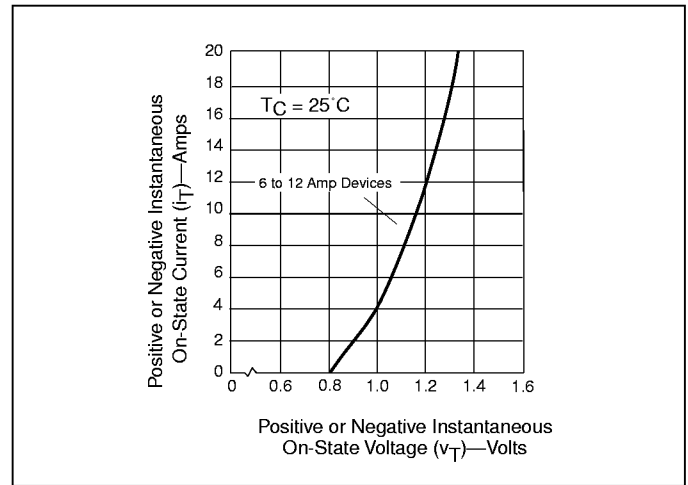

Figure 4.5 On-State Current vs On-State Voltage (Typical) (6-12 Amp Devices)
- See Figures 4.5 and 4.6 for  $i_T$  and  $v_T$ .